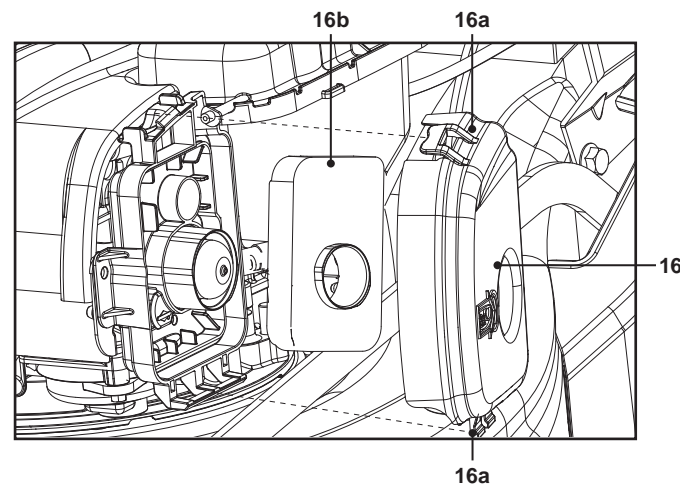

Fig. 26
2. Disengage the two locking latches (16a) and remove the air filter cover (16) afterwards (Fig. 26).
5. Close the air filter cover (16) and ensure the two locking latches (16a) lock properly.